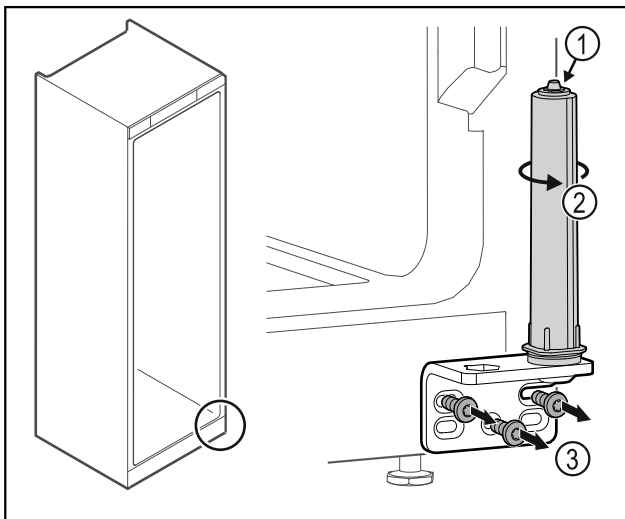

Fig. 18
- ▶ Do not disassemble the door closing system Fig. 18 (1).
- ▶ Turn the closing system Fig. 18 (2) until it clicks.
- ▶ Unscrew the hinge Fig. 18 (3).